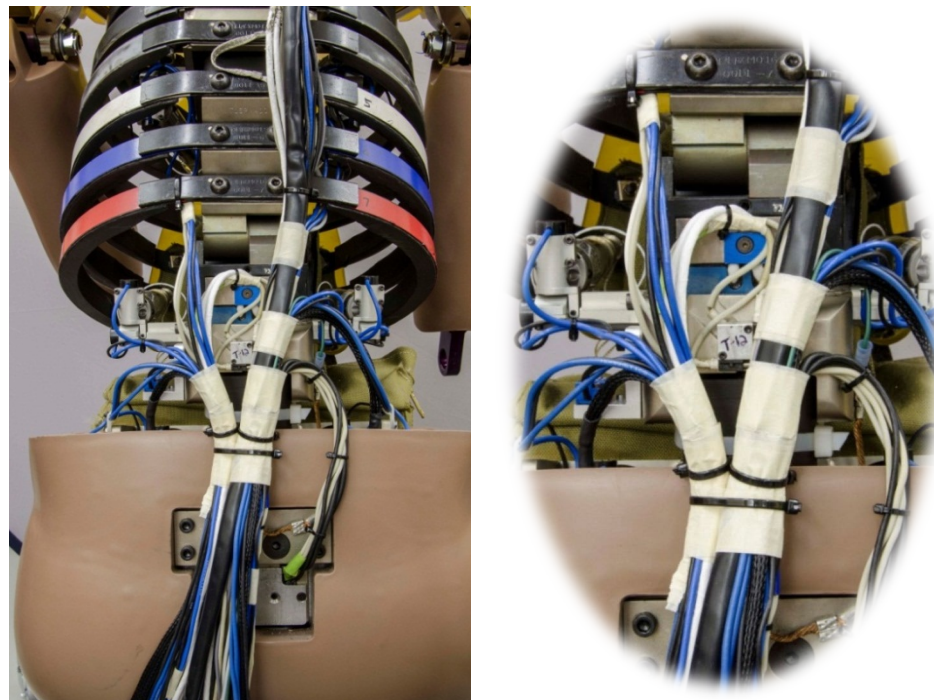

Figure 15-34. Tie the left and right cable bundles together
15.4.4.2 Gather the wiring bundles from the left and right sides of the dummy and tie-wrap them together (Figure 15-34).